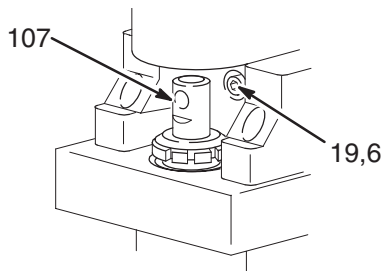
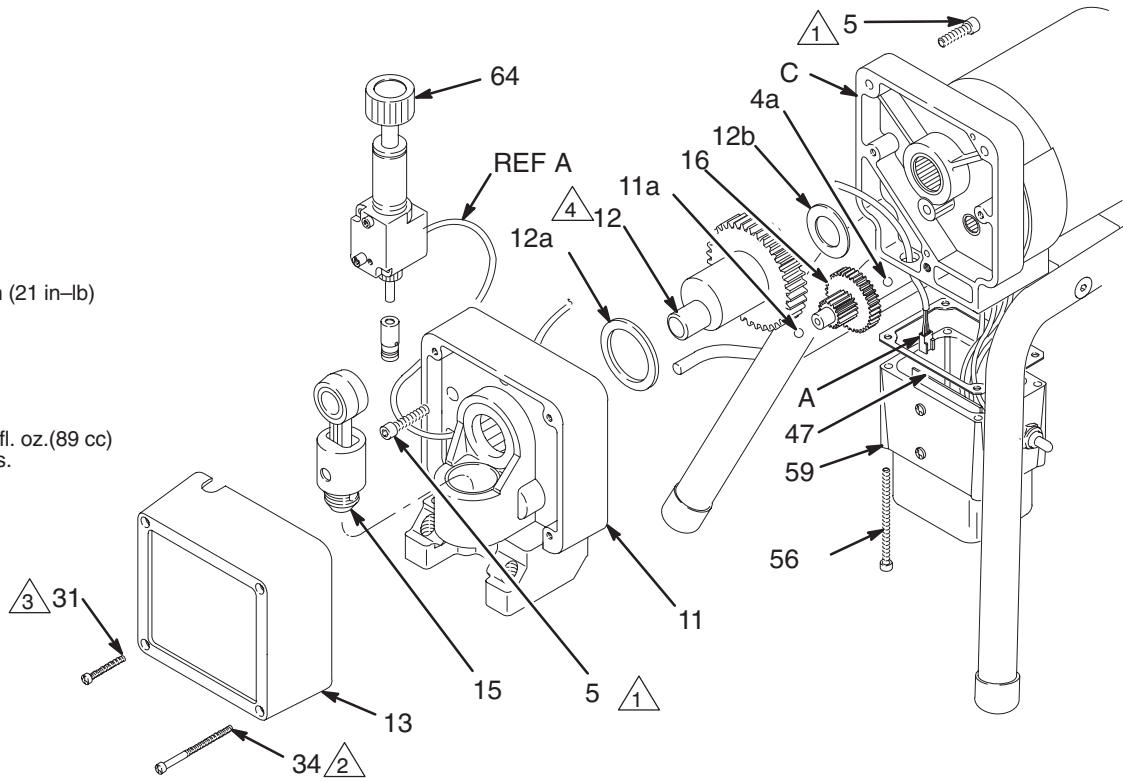

Fig. 24
Fig. 25
2. Remove the pressure control (64). See page 27.
3. Turn the displacement pump rod (107) so the pin hole aligns with the bottom drive housing screw (19). See Fig. 24. Remove the three drive housing screws and lockwashers (19,6). Also see Fig. 25 on page 26.
4. Remove the two motor screws (5) and lock washers (6). See Fig. 25 on page 26.
5. Tap the lower rear of the drive housing (11) with a plastic mallet to loosen the motor. Pull the drive housing straight off the motor.